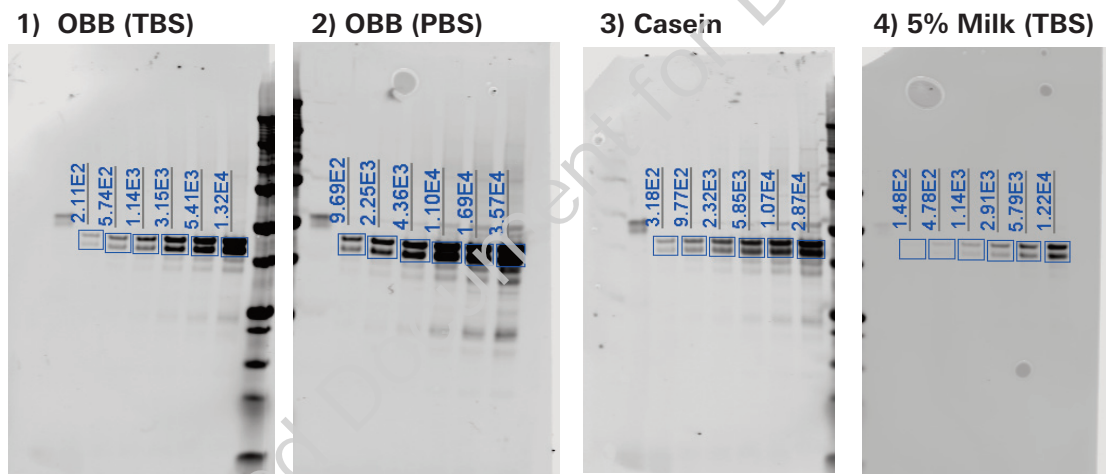

Figure 2B. Image display settings individually adjusted for each blot
- Individually adjust the image display settings for each blot to get the “best” image (Fig. 2B).
Figure 2B. After cropping, image display settings were adjusted individually to display the “best” image for each blot. Signal intensity values are shown in each lane.
- Non-specific background bands were seen with OBB (TBS), OBB (PBS), and Casein blocking buffers (Fig 2B, arrows). Non-specific banding was reduced with 5% Milk (TBS).